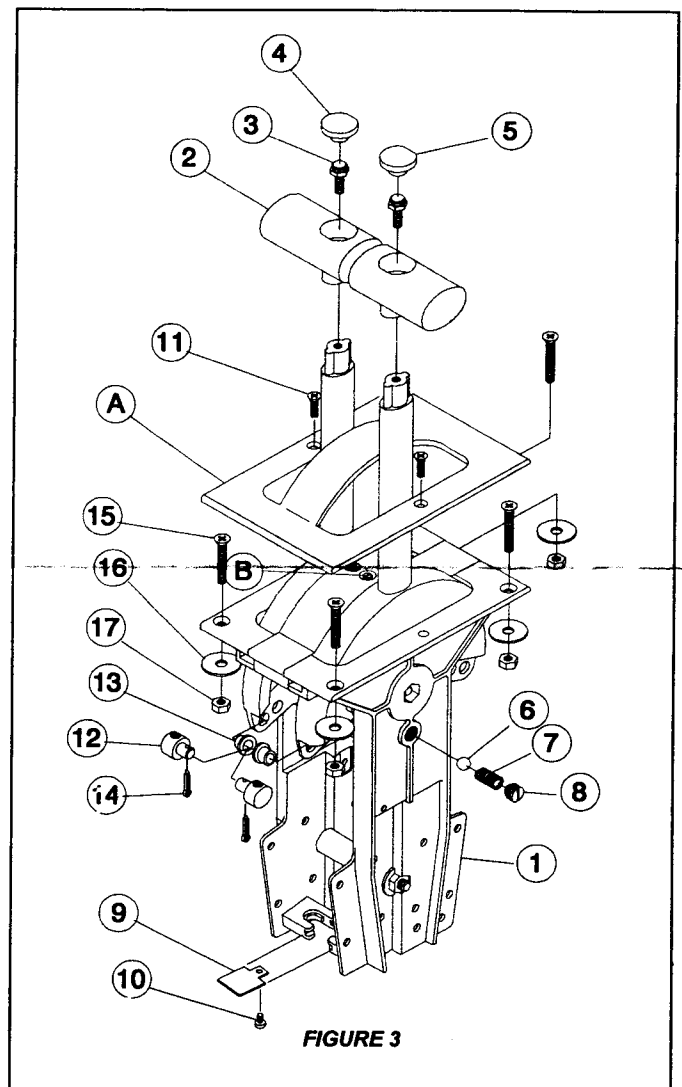

FIGURE 3
2. Detent kits are provided with each control for use on the shift lever. (See figure 3.) For single engine use, install as shown. For twin engine use install detent kits from both controls into the control which will have both shift levers. In two station systems, detents are used in the lower station controls only. **DO NOT INSTALL DETENTS IN UPPER STATION OF TWO STATION SYSTEMS.**
4. Carefully lift the top bezel (A) from the control. If the bezel is black it will snap off, if the bezel is chrome it will lift off. The control is now ready for installation.
5. Place the bushings (13) in the outermost holes in the control arms, insert the pivots in the bushings, and retain the pivots in place with cotter pins (14). See figure 3.
6. Place the control in position in the cutout and secure in place using screws (15) washers (16) and locknuts (17).
7. Check that the control moves freely from full forward to full reverse position. The handle friction can be adjusted by means of turning the screw (B) in the top of the control body. See figure 3. Increase friction by turning screw clockwise, decrease friction by turning the screw counterclockwise. **CAUTION: FRICTION MUST BE REMOVED FROM SHIFT LEVER IN ORDER TO FEEL DETENTS.**
8. Replace the top bezel and attach it to the control body using screws (11) for chrome bezels or by snapping it on for black bezels. Install knobs (2) to the handles using knob screws (3). Snap caps (4 & 5) into handles, the red cap with a raised "T" is for the throttle. Make sure that the cap is aligned with the contour of the knob. If it is necessary to remove the caps, insert a small screwdriver into the hole under the knob and push gently.